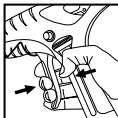

Fig.7
- Gently squeeze **Trigger** until desired amount of glue is dispensed. (Fig. 7)